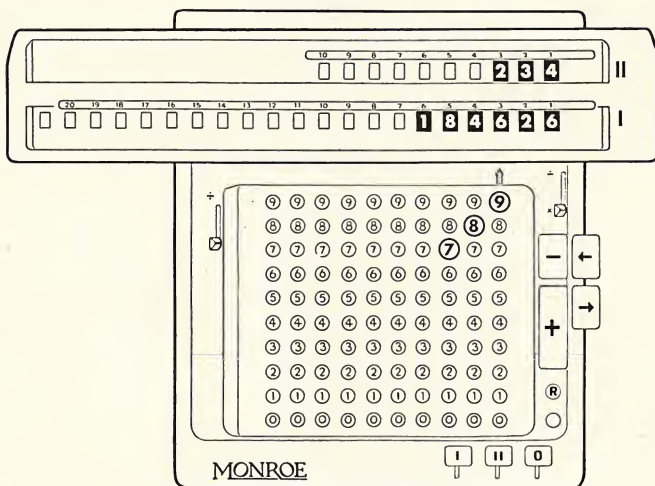

Figure 5
Step 3—The machine now reads as in Figure 5: upper dials 234, the multiplier; keyboard (keys depressed) 789, the multiplicand; lower dials 184626, the result. This is complete and positive proof of accuracy. The only further proof required is a visual check of the 234 and the 789 in the machine against the two factors of the problem. If they agree the result must be correct.
At the completion of the previous problem (Figure 5), the machine reads 789 on the keyboard, 234 in the upper dials, and 184626, the result, in the lower dials. Supposing the 789 is a constant multiplicand and the operator